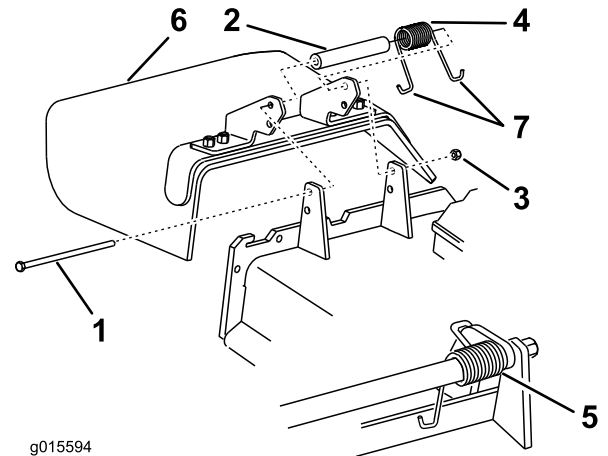

Figure 111
1. Remove the locknut, bolt, spring, and spacer holding the deflector to the pivot brackets (Figure 111).
2. Remove the damaged or worn grass deflector (Figure 111).
**Note:** Make sure that 1 J-hook end of the spring is installed behind the deck edge before installing the bolt as shown in Figure 111.
6. Place 1 J-hook end of the spring around the grass deflector (Figure 111).